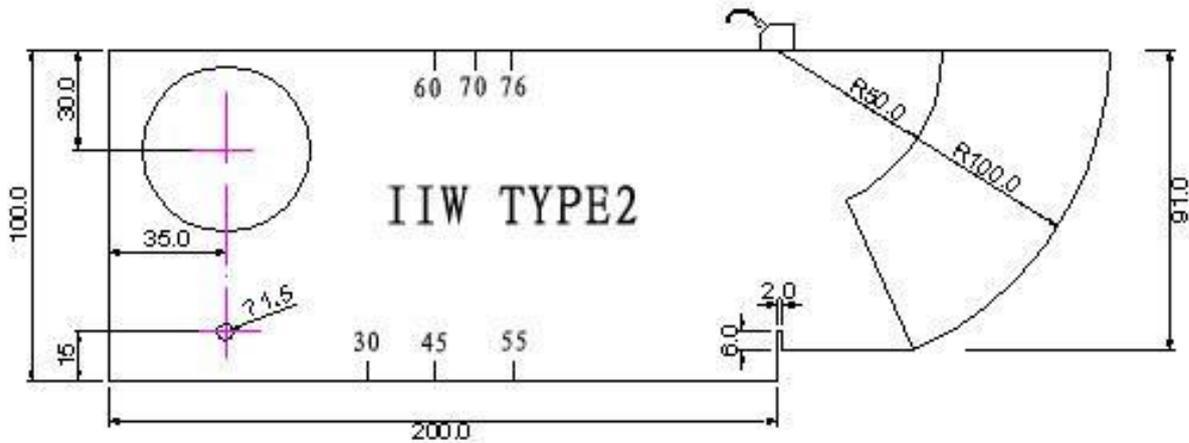

Fig.4.1 50/100 echo
- (1) Select the CABT menu in group Auto C, by \square you can see 50/100 echo, then put your probe as fig4.1. Try to find the highest echo of 100, then press \square twice, the zero point and sound speed of material has been calibrated. then press \square , you will see x (front edge)=XXX.XXmm, please read it and input it.